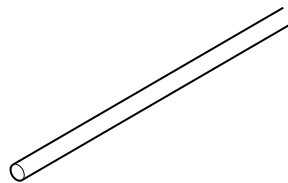

Fig. 13
- (f) Fig. 13 shows a length of $\varnothing 5$ acrylic rod from which the five hooks will be made.